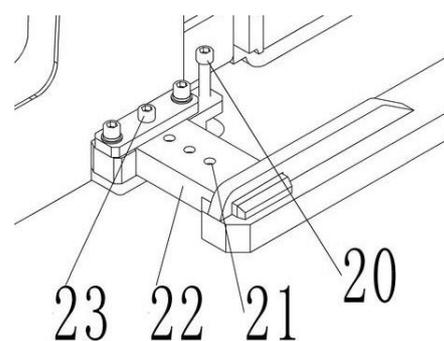

Fig.16: Adjust the legs
- Tighten the positioning bolt (23) after adjusting the legs.
- When adjusting the legs, please pay attention that the number of positioning holes (21) exposed on each side of the legs should be same. (as shown in Fig. 16, if one side has 3 positioning holes(21), the other side should also be 3).
When adjusting the legs, please pay attention that the number of positioning holes (21) exposed on each side of the legs should be same. (as shown in Fig. 16, if one side has 3 positioning holes(21), the other side should also be 3).